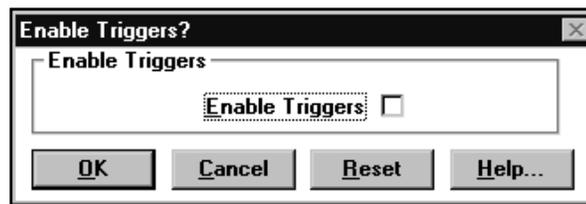

FIGURE 99. Example of Enable Triggers dialog box
1. To send trigger messages to the DMS switch, select Enable Triggers in the configuration window. (See Figure 99.)